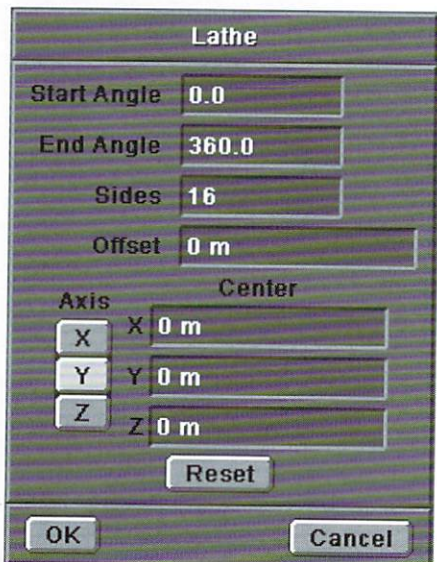

Figure 5: The Lathe requester for making the Steam object.
4. Select the Lathe tool from the Multiply menu, and Lathe the curve around the Y axis. Figure 5 shows the Lathe requester.